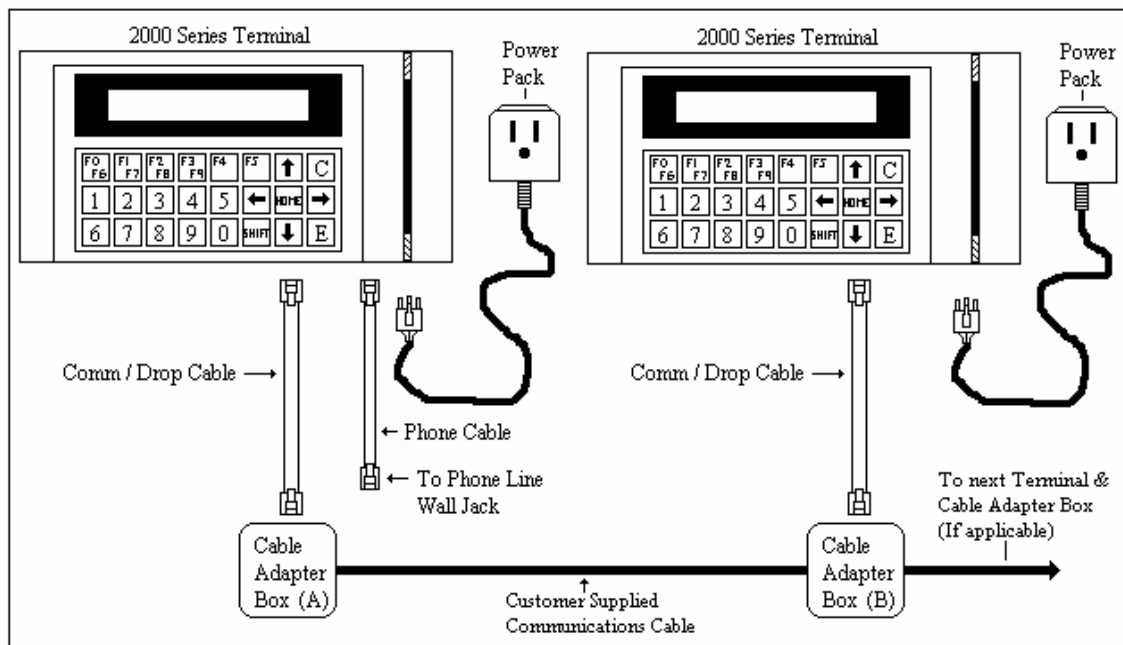
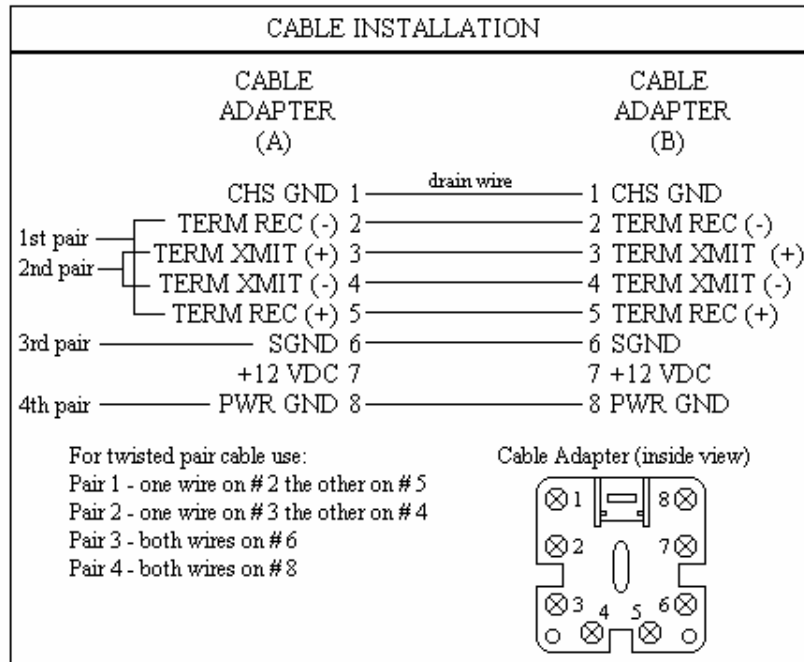

Figure 1
Figure 3
Figure 1 shows how all of the system components are connected on a typical Remote RS-485 Network setup. The Network can have up to 32 Terminals with a total cable run of 5,000 feet. (5,000 ft. run is dependent upon wire specifications and Terminal power supply location). See Appendix A for recommended cable specifications. (Note: Figures are not to scale).
- As you install the system, refer to Figure 1 in addition to the other figures mentioned below.
Strip back the outer covering on the communication cables about 2 inches. For twisted pair cable, select 1 twisted pair from however many there are and strip them back about 1/2 inch. For non-twisted pair cable, select 5 color wires from however many there are (Note: The same color wires must be used at every Terminal location) and strip them back about 1/2 inch. For either type of cable, connect and screw the wires down into to both Cable Adapter Box (A) and Cable Adapter Box (B) using the Cable Installation diagram (Figure 3). It does not matter what color wire is selected to screw down into the Cable Adapter's screw terminals, as long as the same color wire is connected to same number screw terminal at each Adapter (Figure 3). For twisted pair cable, repeat this step for each one of the remaining twisted pairs by following the Cable Installation Diagram (Figure 3). (Note: If there are only 3 twisted pairs in the cable, then the 3rd pair
For each additional Terminal to be installed, connect and screw the wires down from the communication cable from the previous Cable Adapter to the next Cable Adapter by using the Cable Installation diagram (Figure 3). (For example, for a third Terminal to be installed, the communication cable would be wired from the second Terminal's Cable Adapter (B) to the third Terminal's Cable Adapter (C) etc. (Figure 1)). All Drain wires should be tied together at each Terminal's Cable Adapter to screw terminal 1. Close the covers on all Cable Adapters when the wiring is done.
Plug the Terminal's Power Pack into a 120 VAC outlet (Figure 1). The Terminal will run a series of self-tests and prompt "Setup Mode?" on the top line of the display. The bottom line of the display shows the Baud Rate, Parity, Host Delay, Terminal Address, and the type of Reader (Figure 9).